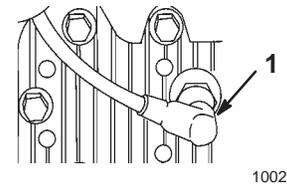

Figure 6
1. Disconnect the wire from the spark plug (Fig. 6).